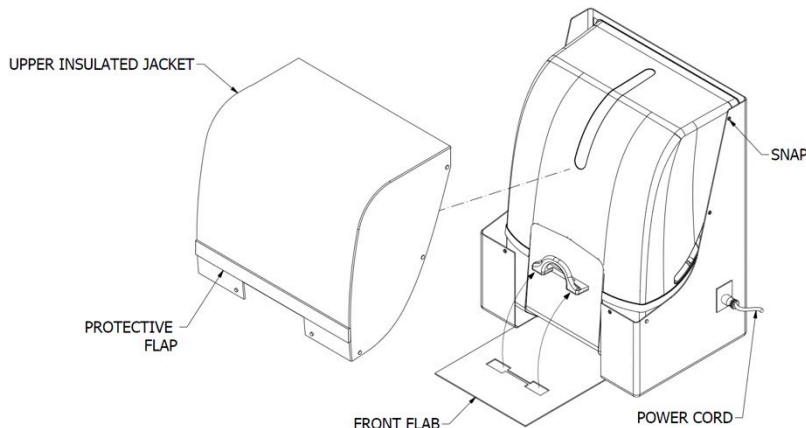

FIGURE 7
Step 6. Upper Insulated Jacket (Ref Figure 7)
Step 7. Power Connection (Ref Figure 7)